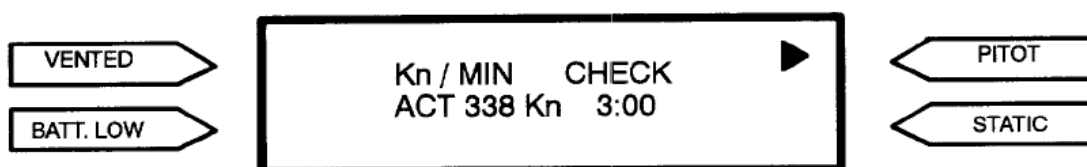

Figure 16 Checking Period
- T. If the system passes the coarse leak check the PSLT continues with the main leak check. During the check period, the real time leakage is displayed in the units in which the test is being conducted. The caption 'CHECK' and the elapsed time are also displayed (*Figure 16*).